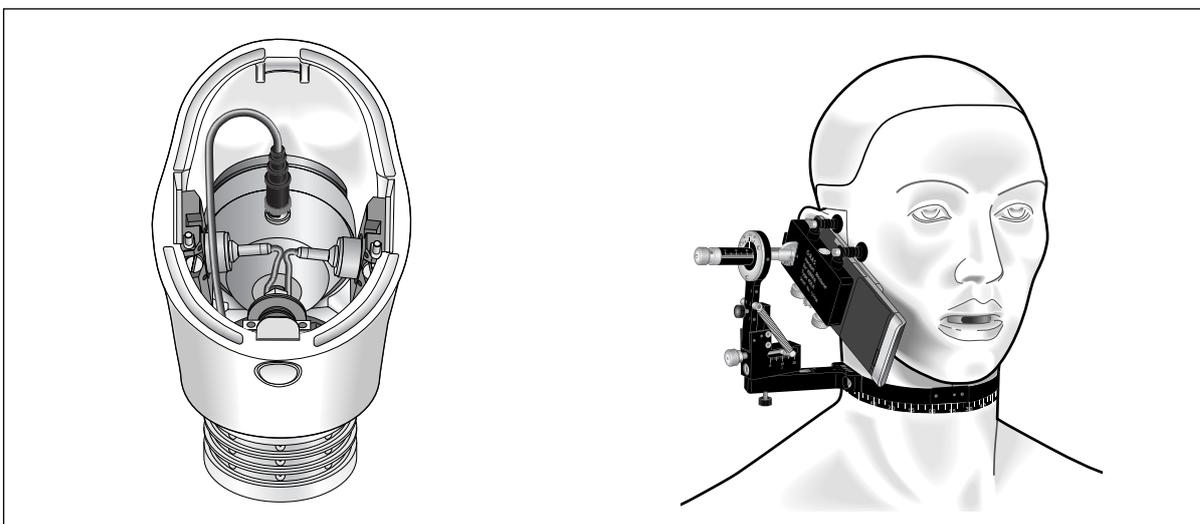

Fig. 14. 45BC KEMAR with Mouth Simulator and Ear simulator and with 45EA Handset Positioning System.
Handsets (for example mobile phones) are typically tested by aid of the 45EA Handset Positioning System as shown in Fig. 14
- Using the 45EA Handset Positioning System, the 45BC KEMAR can be used for measurement of handheld communication devices, as shown in Fig. 14.